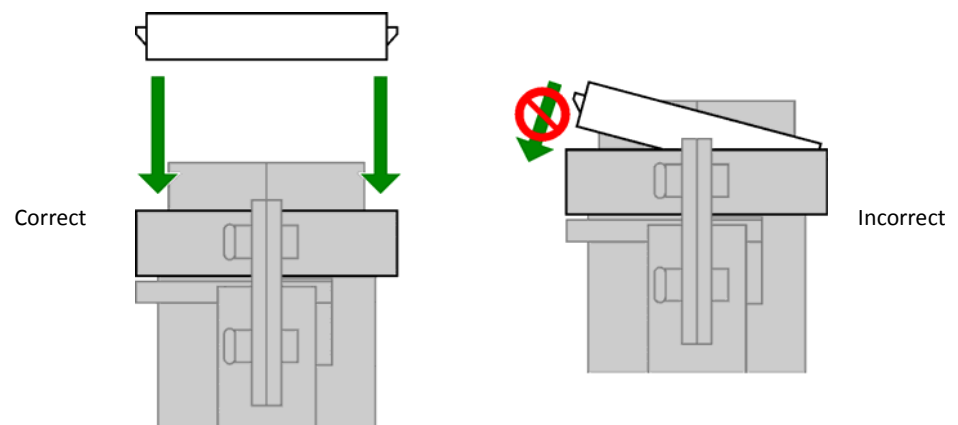
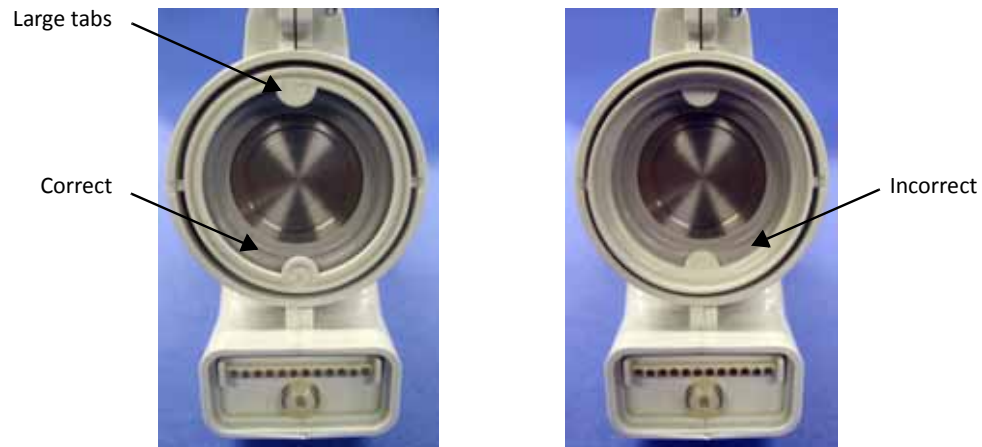

Figure 10-6: eSYS retaining ring assembly
Figure 10-7: eSYS retaining ring tabs
- 2 The retaining ring is keyed. Be sure to line up the alignment tabs with the notches in the eSYS cartridge body. The large tabs should be facing out. Press the retaining ring down evenly (not tilted) until the retaining ring snaps into place. See Figure 10-6 and Figure 10-7 below.
- 3 Visually check the diaphragm for pinching. Using improper technique when seating the retaining ring can sometimes pinch one side of the diaphragm. If needed, disassemble and reassemble the eSYS cartridge to correct the pinched area. See Figure 10-6 above for how to correctly seat the ring.